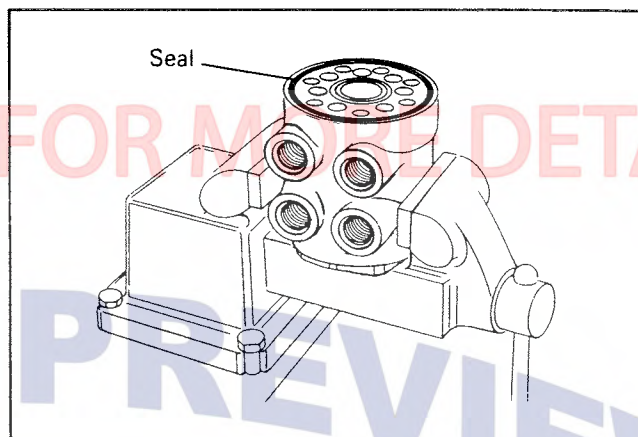

Figure 17:
13. Clamp housing in vise (Figure 17). Clamp lightly on edges of mounting area. Do not over tighten jaws. Install 4-3/4 in. (120 mm) diameter seal in housing.